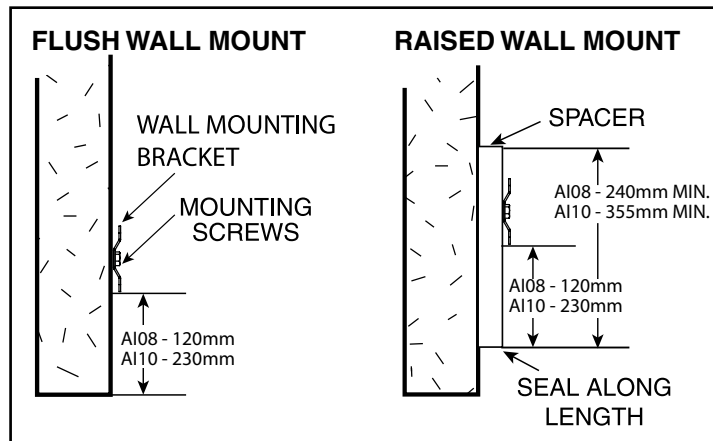

Figure 3 - Wall Mounting Location
- B. For optimum performance, the bottom of the air curtain (discharge nozzle) should be no more than 125mm above the top of the door opening with the air curtain(s) mounted flush to the wall. If the air curtain must be mounted higher, it must be spaced out from the wall 10mm for every 25mm the air curtain is above the door opening. **See Figure 3.** For optimum protection, any void between the air curtain and the wall should be sealed along the full length of the air curtain.
1. Position one wall mounting bracket over the door opening as shown in **Figure 3**. The bracket should be centered over the door opening. NOTE: For units longer than 3048mm, install two wall mounting brackets in tandem across the door opening.